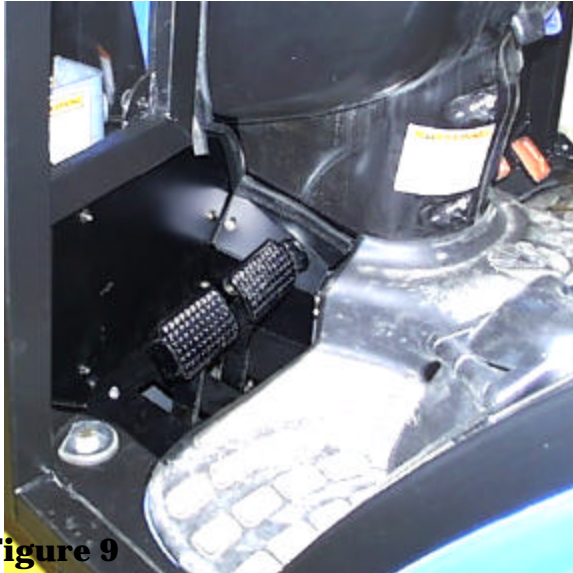

Figure 9
11. Remove bottom bolt from plastic hood shield fascia before proceeding. Peel back hood shield upholstery as shown in Figure 9. Take the left lower hood shield and position it along the lower window crossmember and the bell housing. Slide 180° O-rubber onto the contoured edge of the panel starting from the top until you reach the bend. Position shield against tractor bell housing, over welded sheet-metal panel on cab, and over lower window crossmember so that the shield is sealing along bell housing. Drill two holes on the left side of the panel and fasten to welded on panel on cab. Drill one hole through steel hood shield and panel and fasten on top. Use 1/4" x 3/4" flange bolts and nuts to fasten shield.
12. Take the left pedal shield and slide 180° O-rubber onto the smaller bent edge of the panel as shown in Figure 9. Slide the shield over the pedals and against the bell housing of the tractor. Line up the slots of the two shields and bolt together with 1/4" x 3/4" flange bolts and nuts. Drill one hold through the front of bottom shield and another hole